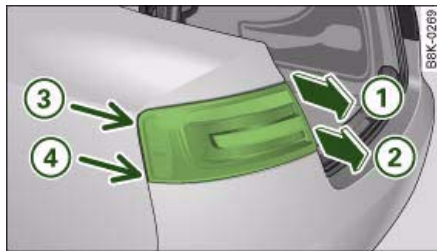

Fig. 253 Removing rear light from side panel
- Gradually ease the light housing out of the rubber mountings (positions ⇒ fig. 253 ③ and ④) by pulling alternately in direction of arrows ① and ②. If necessary use the tool for changing bulbs from your vehicle's toolkit to carefully apply some pressure between positions ③ and ④ ⇒ ①.